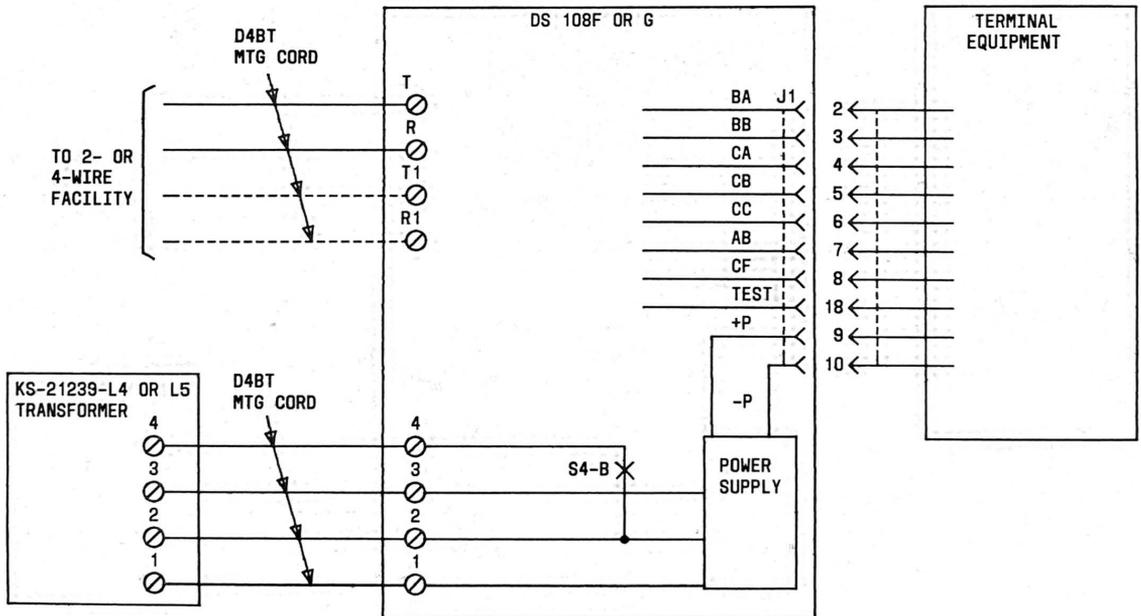

Fig. 15—DS 108F or G Connection Diagram
- Fig. 15—DS 108F or G Connection Diagram